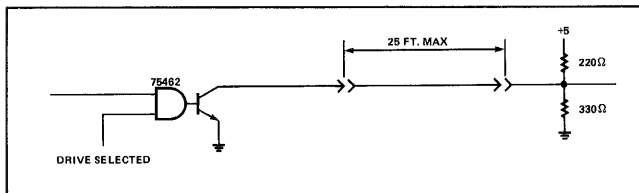

Figure 3-30. Single End Line Driver
3.19.8 – READY. This low-active signal from the drive indicates that the drive is up to speed and ready to read, write, or seek. This line is driven by a 75462 open collector driver, as shown in Figure 3-30. The DC characteristics are listed in Table 3-5. This line must be terminated at the controller end.
3.19.9 – INDEX. This low-active signal occurs once per revolution and indicates the beginning of a track. This line is driven by a 75462 open collector driver, as shown in Figure 3-30. The DC characteristics are listed in Table 3-5. This line must be terminated at the controller end.
shown in Figure 3-30. The DC characteristics are listed in Table 3-5. This line must be terminated at the controller end.